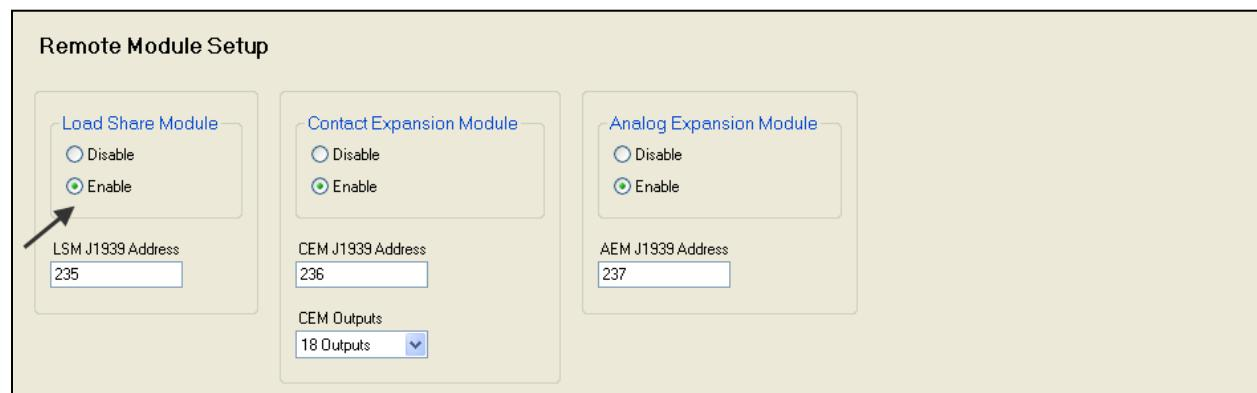

Figure 6-73. Settings Explorer, System Parameters, Remote Module Setup Screen
- a. Enable the load share module. The load share module setup is found in BESTCOMSP^{plus} under SETTINGS EXPLORER→DGC-2020→SYSTEM SETTINGS→REMOTE MODULE SETUP. See Figure 6-73.